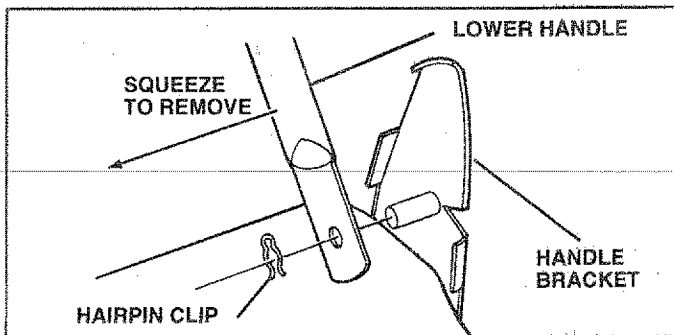

FIG. 14
- Disconnect the lower handle from the handle brackets (See Fig. 14).